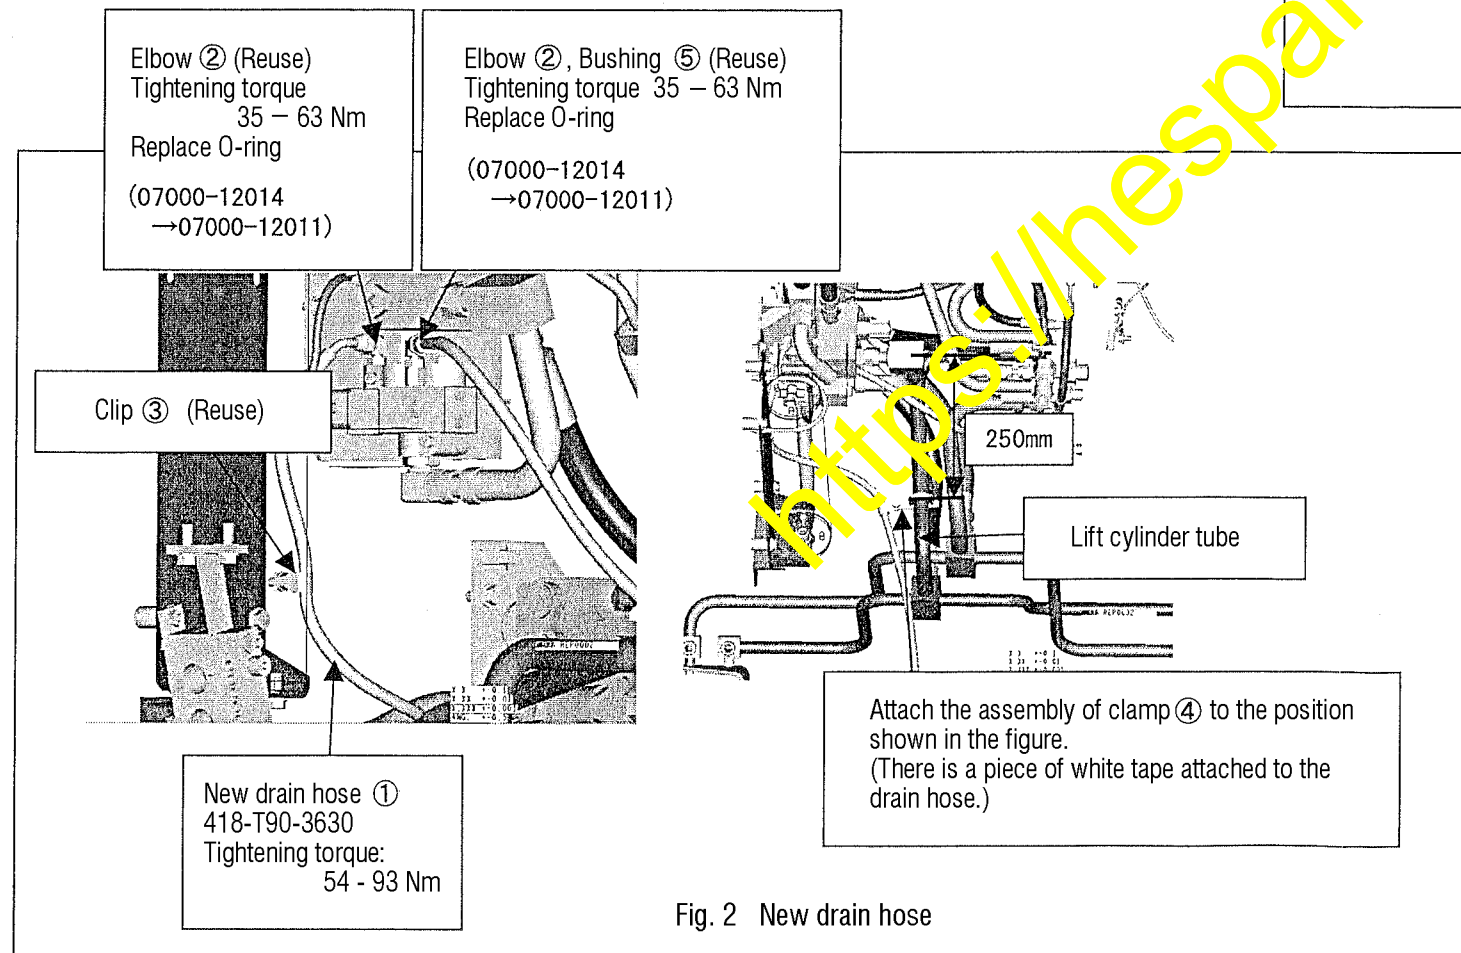

Fig. 2 New drain hose
- (1) Remove elbow (418-T80-3280) ② and bushing (418-T90-3110) ⑤ on the regeneration valve and replace the O-ring with a new one. (07000-12014 → 07000-12011)
- (2) Return the elbow and bushing to the original state.
- (3) Install new drain hose (418-T90-3630) ①. (Refer to Fig 2)
- (4) Elbow ② and clip ③ are the reused parts. (Refer to Fig 2)
- (5) With assembly of clamp ④, fix the new drain hose in the position shown in the figure. (Refer to Fig. 2)